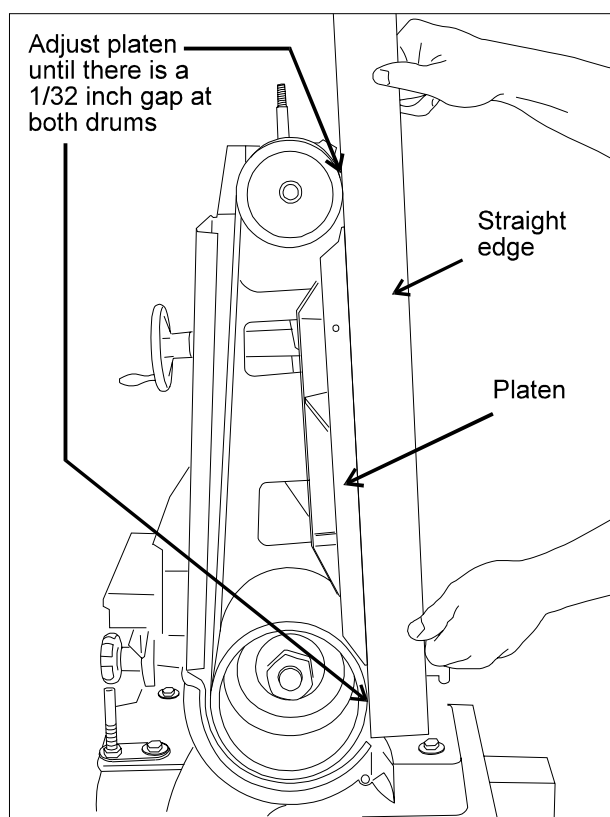

Figure 22: Method for adjusting height of platen above drive and idler drums.
6. Using a straight edge as shown in Figure 22, adjust the platen height until it is 1/32 inch higher than the crown of both the drive and idler drums.